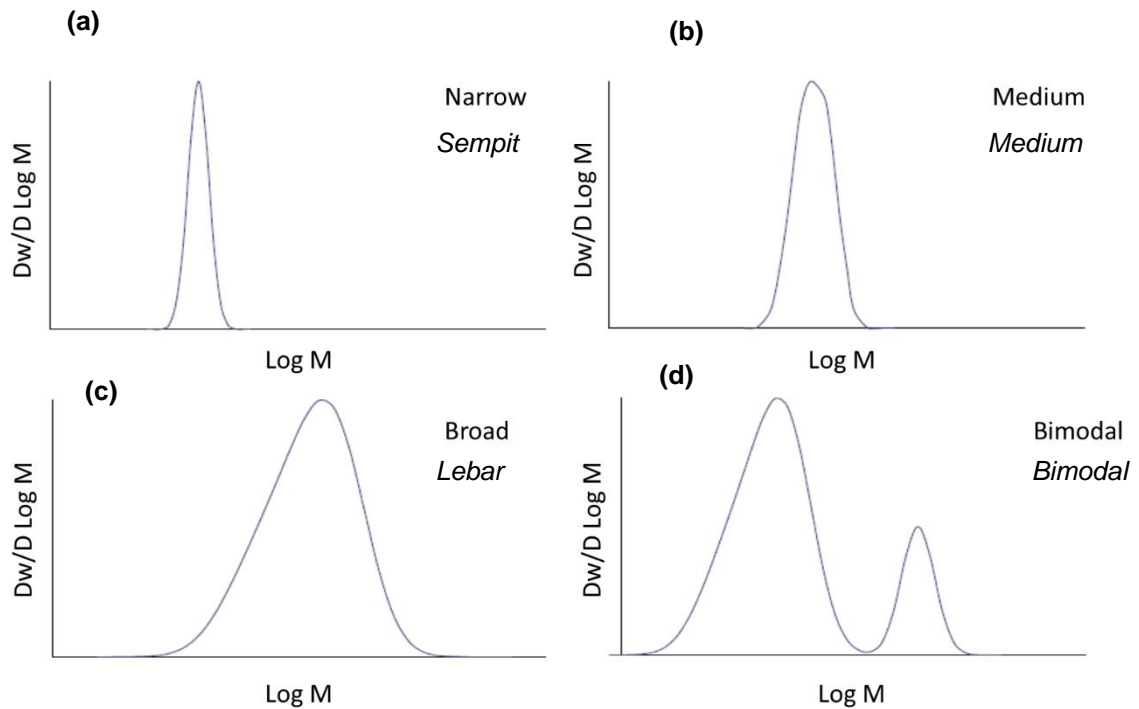

Figure 1: Polymer Distribution
- (ii). Figure 1 shows the differences in polymer distribution. In relation to the polydispersity index, discuss potential explanation for each of the displayed polymer distributions.